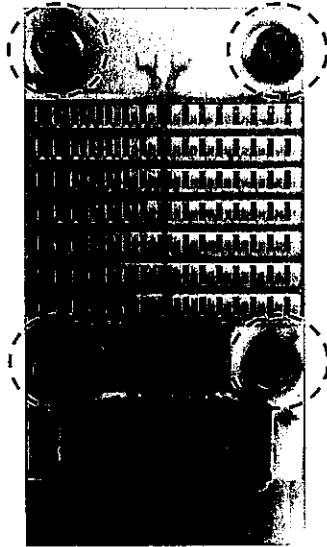

Figure 2. Recommended use M2 screw with washer to connector
2. TSLC recommend assembly using M2 screw with washer to connect D4525U-UND2 and heat sink is shown below (Fig.2).